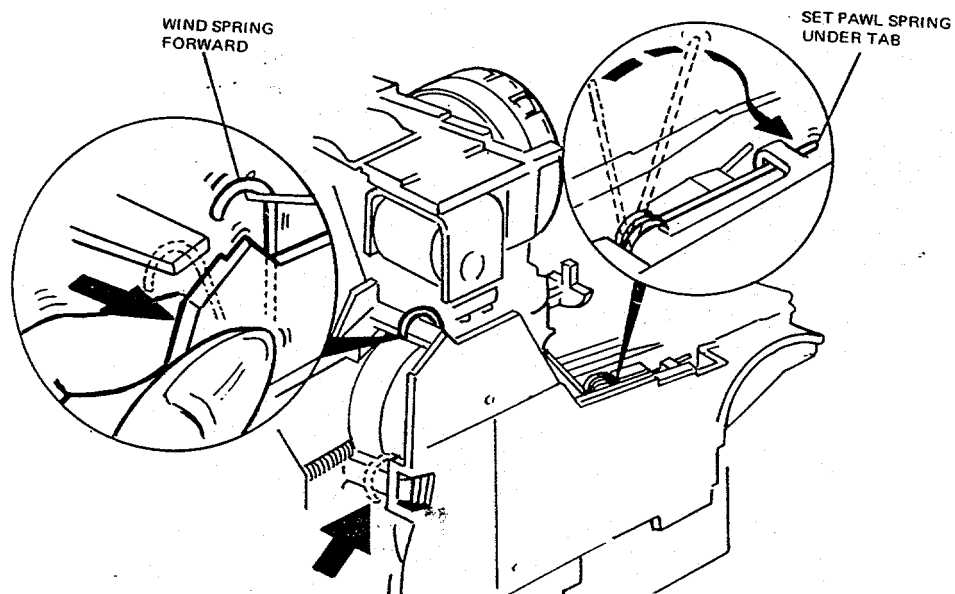

Fig. 52 Setting Counter and Pawl Springs
64. Using a dental pick, set the Counter Spring and Pawl Spring as shown in Fig. 52.